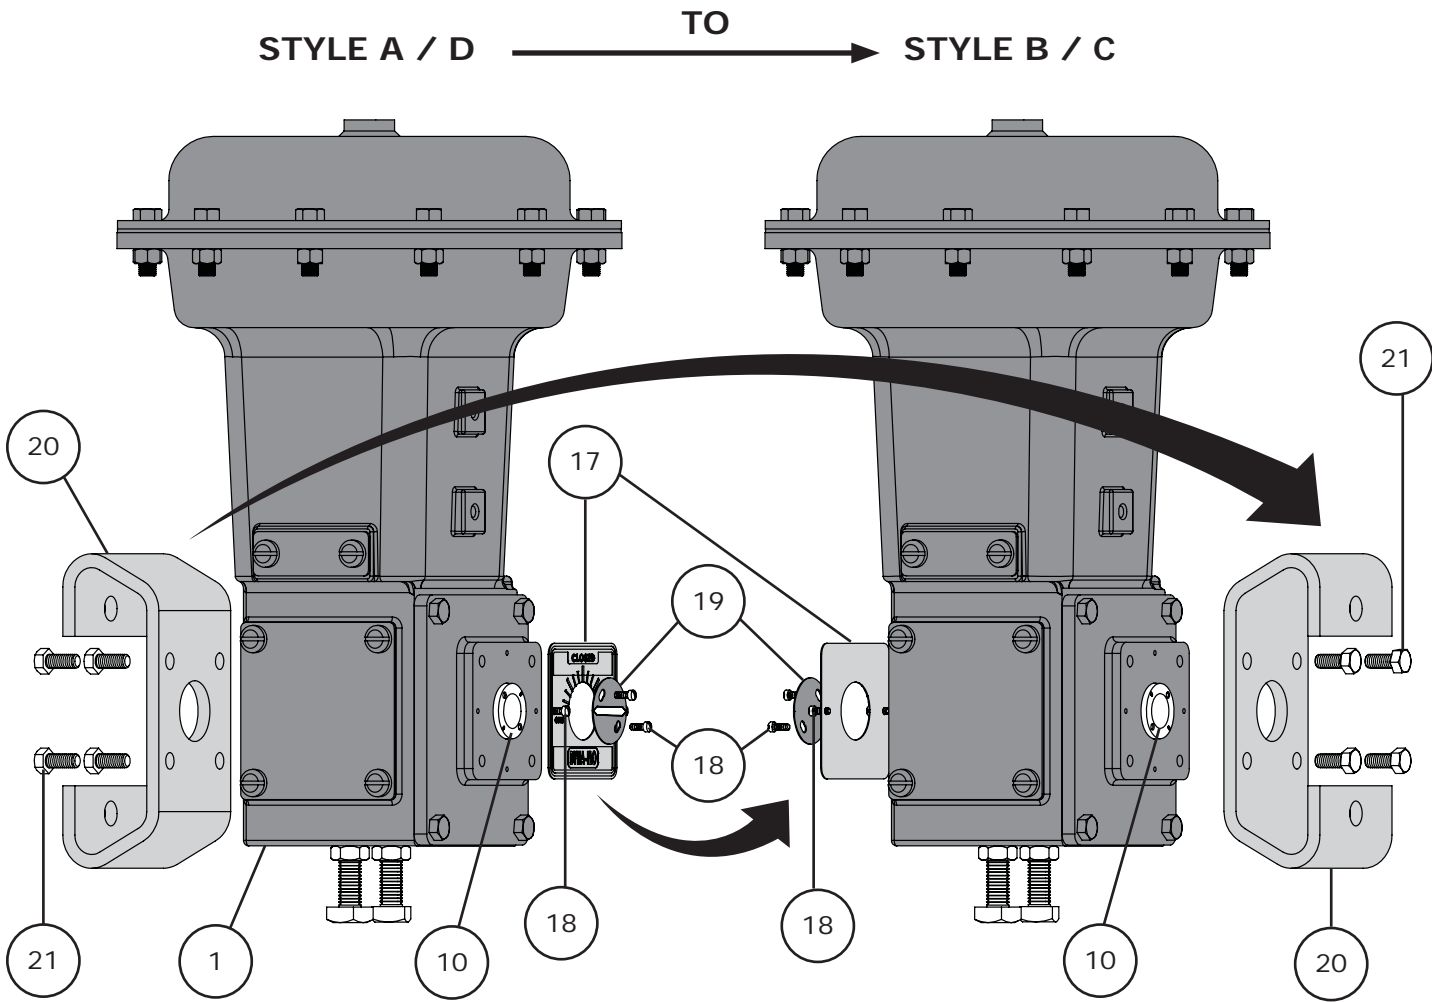

Figure 8 *Changing Actuator Style*
Refer to Figure 8.
- 4 Swap the position of the travel indicator (Key 19) and mounting yoke (Key 20) as shown in Figure 8. Install the travel scale on the opposite side of the actuator using the machine screws (Key 18). Install the travel indicator (Key 19) into the opposite side of the lever (Key 10) using the machine screws (Key 18).